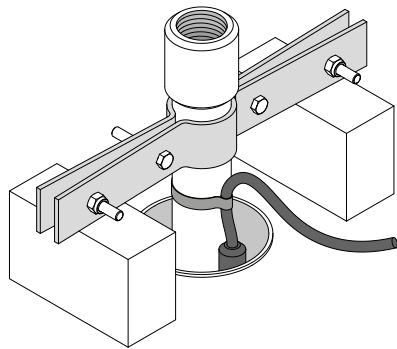

Fig. 7.5 - For details see page 33
- It is advised to connect a short section of pipe to the pump delivery port first, securing the electric power supply cable to it. Secure a supporting bracket to the other end under the sleeve or the coupling flange (Fig. 7.5).